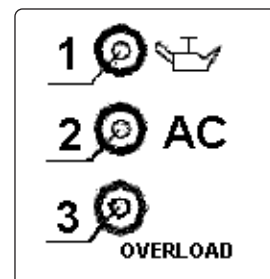

fig.3
The AC pilot light fig.3.(2) comes on when the engine starts and produces power.